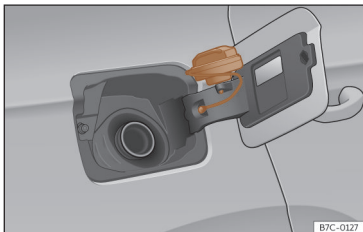

Fig. 193 Fuel tank flap with tank cap attached.
- Place it in the space on the hinge of the open flap»» Fig. 193.